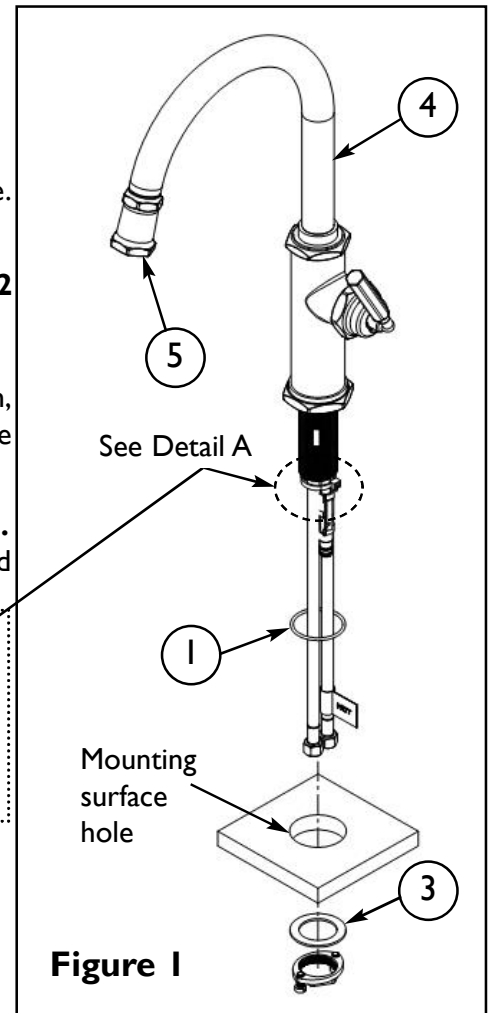

Figure 1
2. Insert Hoses through base O-RING (1) in hole mounting surface. Secure into place with MOUNTING KIT (3). See Figure 1.